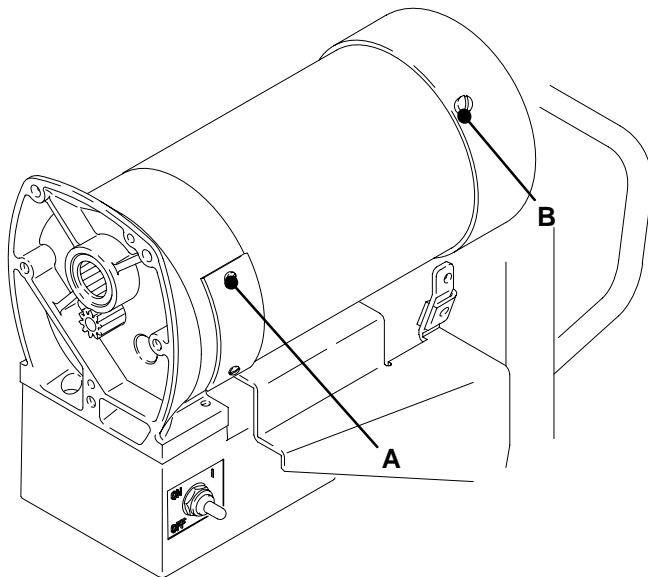

Fig. 3 02991
3. Fig. 3. Remove brush inspection covers (A).
1. Remove fan cover (B). See Fig.3.